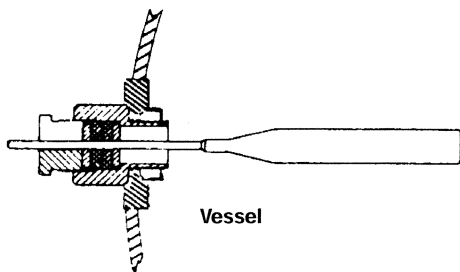

Figure 5 - Stuffing box installation
4. Install stuffing box or bulb casing as shown in Figures 5 or 6.
5. Remove adjusting sleeve (2) from Thermo-Pilot. Slide internal threaded end over bellows of thermostatic element and screw on to threads of swivel nut until end of adjusting sleeve rests on swivel nut face. Tighten swivel nut firmly against adjusting sleeve.